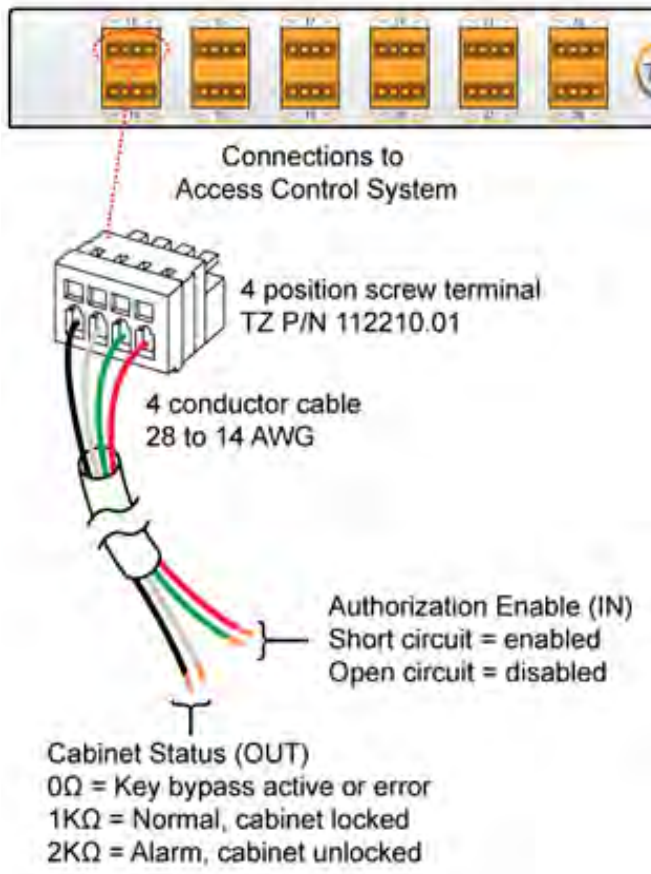

Figure 7: Wiring diagram between controller and TZ Praetorian™ Junction
Step 3: Install all 4 wires according to the wiring diagram in Figure 7.